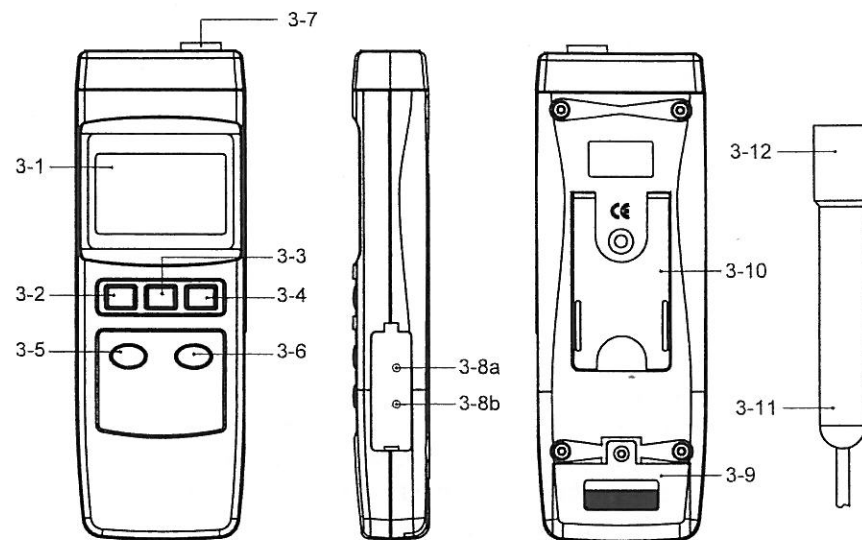

Fig. 1
- 1) Connect the " Conductivity Electrode " (3-12, Fig. 1) to the " Electrode Input Socket " (3-7, Fig. 1).
- 3) Select the " 2 mS range " or " 20 mS range " by pressing the range button (3-5, 3-6, Fig. 1).
- 4) Hold the " Electrode Handle " (3-11, Fig. 1) by hand & let the Conductivity Electrode (3-12, Fig. 1) is immersed wholly into the measured solution.
- 2) Pressing the range switch to " 2 mS range " (3-5, Fig. 1) position.
- 3) * Hold the " Electrode Handle " (3-11, Fig. 1) by hand & let the " Conductivity Electrode " (3-12, Fig. 1) is immersed wholly into the above " 1.413 mS Calibration Solution ".
- * Adjust the " 2 mS Calibration VR " (3-8b, Fig. 1) until display show the value same as 1.413 mS exactly.
- 2) Slide the " Battery Cover " (3-9, Fig. 1) away from the instrument and remove the battery.